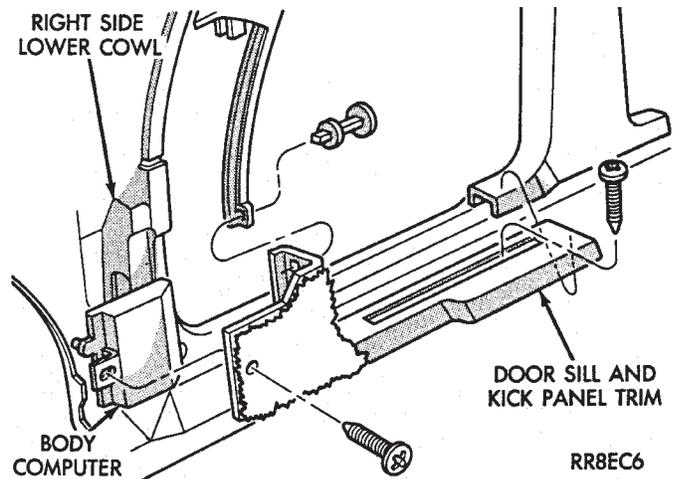

Fig. 37 Body Controller Location
- (1) Remove right side door sill and kick panel trim five screws (Fig. 37).
- (2) Disconnect body controller wiring.
- (3) Remove controller retaining nuts.
- (4) For installation reverse above procedures.